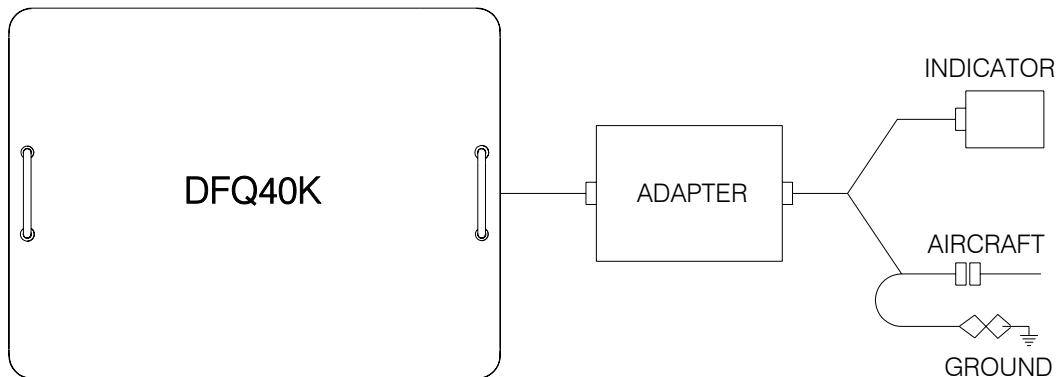

Figure 8 AIRCRAFT INSULATION TEST CONFIGURATION
- (1) Position the equipment conveniently for the following procedures.
- (2) Connect to the Test Set the Adapter Cable specific for the Aircraft being tested, as shown in Figure 8 or as directed in the Adapter Cable Instructions.
- (3) Connect the Adapter Cable between the Indicator and the aircraft wiring plug.
- (4) Connect the ground lead from the adapter (if so equipped) or from the Test Set **GND** receptacle, to a secure airframe ground.